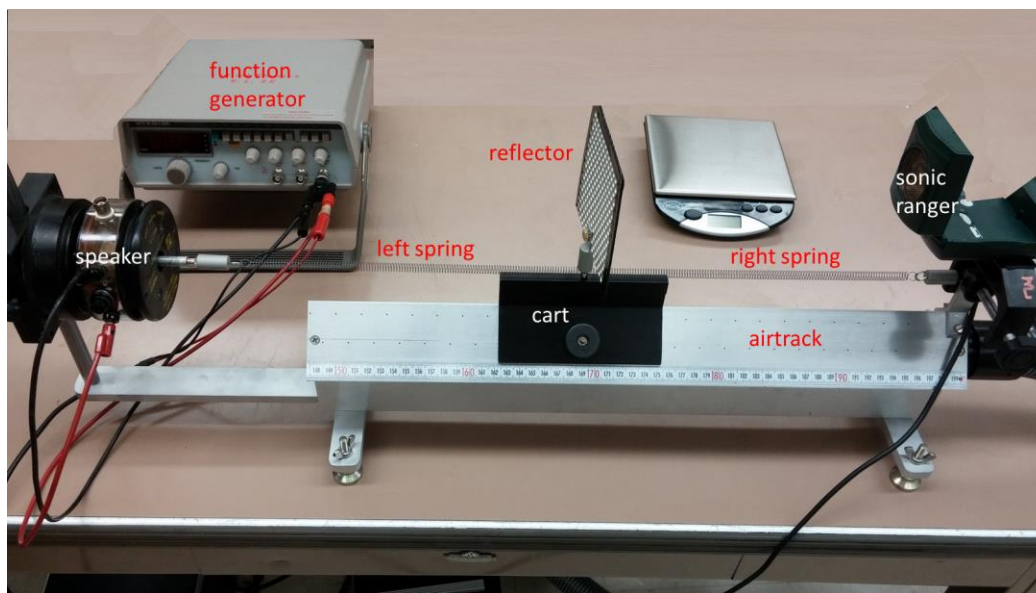

Figure 2. The apparatus for the Forced Harmonic Motion experiment.
- (3) **Take a picture** of you and your partner with the lab apparatus by pointing the provide web cam appropriately and clicking "Capture image" in your lab template. If an error occurs, please consult your TA for assistance.
- (4) Make sure that the indicator light on the sonic ranger is glowing green. If it isn't, check that the cord for the ranger is plugged into the LabPro interface. If not, contact your TA.
- (5) Start the LoggerPro software by opening the LoggerPro Templates folder on the desktop and clicking on the file labelled **Forced Harmonic Motion**; if LoggerPro was left running from the previous lab section, close and restart it.
- (6) Verify that black and red voltage leads are connected from the speaker to the CH 1 port on the side of the LabPro interface box. This connection will monitor the voltage driving the speaker.
- (7) Verify that the cart has a reflector and that the two springs are connected to the cart, speaker and air-track, as seen in Figure 2.
- (8) Check that the sonic ranger is pointing at the reflector on the cart and that the reflector is perpendicular to the track.
Figure 2 shows a photograph of the setup you will use. A cart of mass m is connected **between two springs** and can move left or right along an air track. The left spring goes to a **speaker**-like device that will create and drive the oscillation, and the right spring goes to a fixed point. The speaker is driven with a sine wave of frequency f , while the right spring keeps the cart centered on the track and prevents the left spring from collapsing.